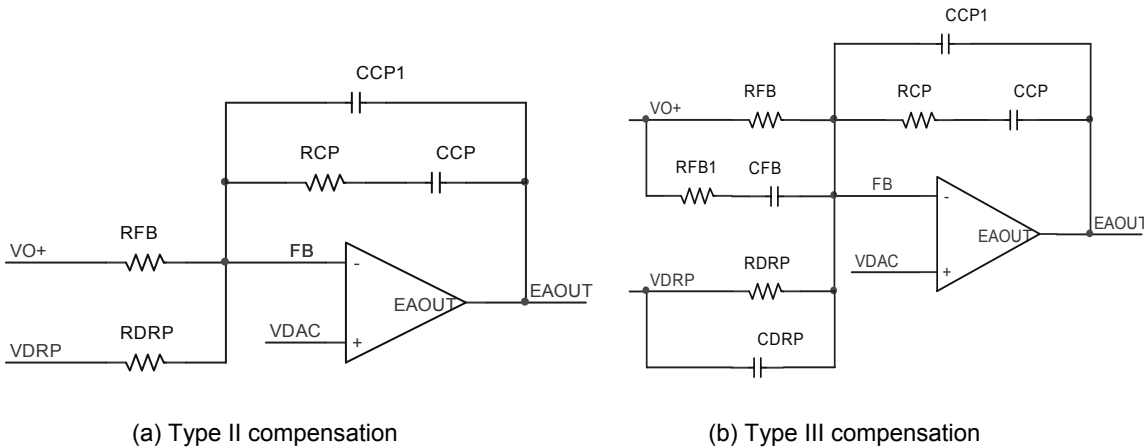

Figure 8. Voltage loop compensation network
Resistors  $R_{FB}$  and  $R_{DRP}$  are chosen according to Equations (13) and (14), and the selection of compensation types depends on the output capacitors used in the converter. For the applications using Electrolytic, Polymer or AL-Polymer capacitors and running at lower frequency, type II compensation shown in Figure 8(a) is usually enough. While for the applications using ceramic capacitors and running at higher frequency, type III compensation shown in Figure 8(b) is preferred.
For applications where AVP is not required, the compensation is the same as for the regular voltage mode control. For converter using Polymer, AL-Polymer, and ceramic capacitors, which have much higher ESR zero frequency, type III compensation is required as shown in Figure 8(b) with  $R_{DRP}$  and  $C_{DRP}$  removed.